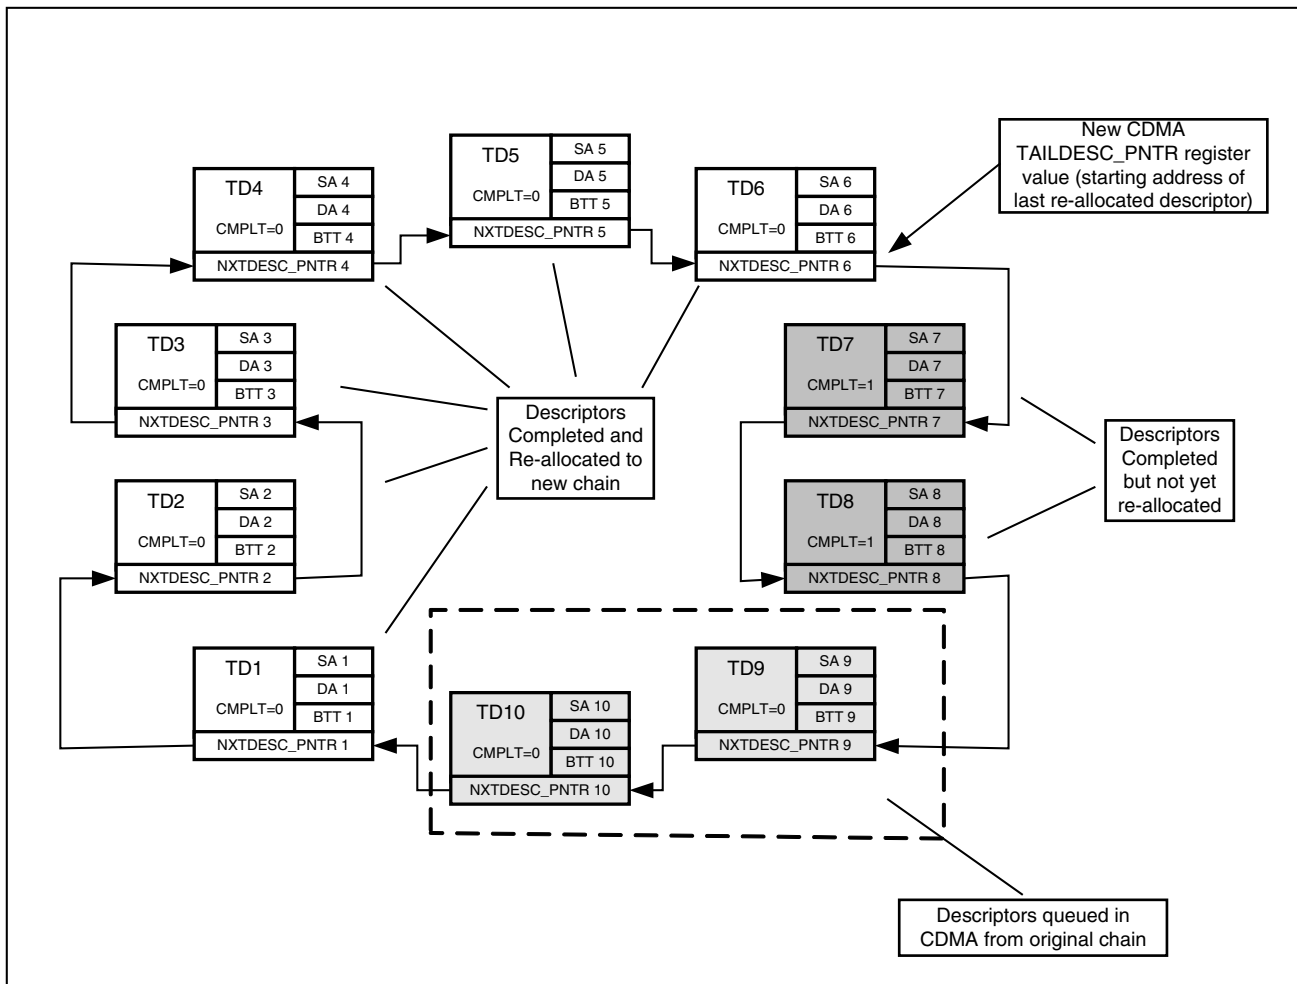

Figure 20: Transfer Descriptor Re-Allocation
- When the software application has recognized the completed descriptor and performed any necessary processing associated with it, the application can re-allocate the descriptors by adjusting the SA, DA, BTT, NXTDESC_PNTR, and zeroing out the STATUS word. This is depicted in Figure 20.